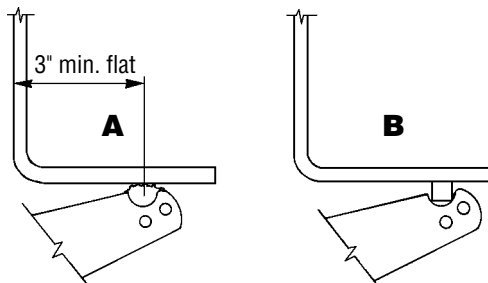

Figure 2
3. Cradle a support point in the notch at the end of the lift arm. See Figure 2-B. Use the serrated pad to raise a vehicle with a flat underside. See Figure 2-A.
4. Position the lift pad at least 3" inward toward the center of the vehicle from the beginning of the flat surface. See Figure 2-A.